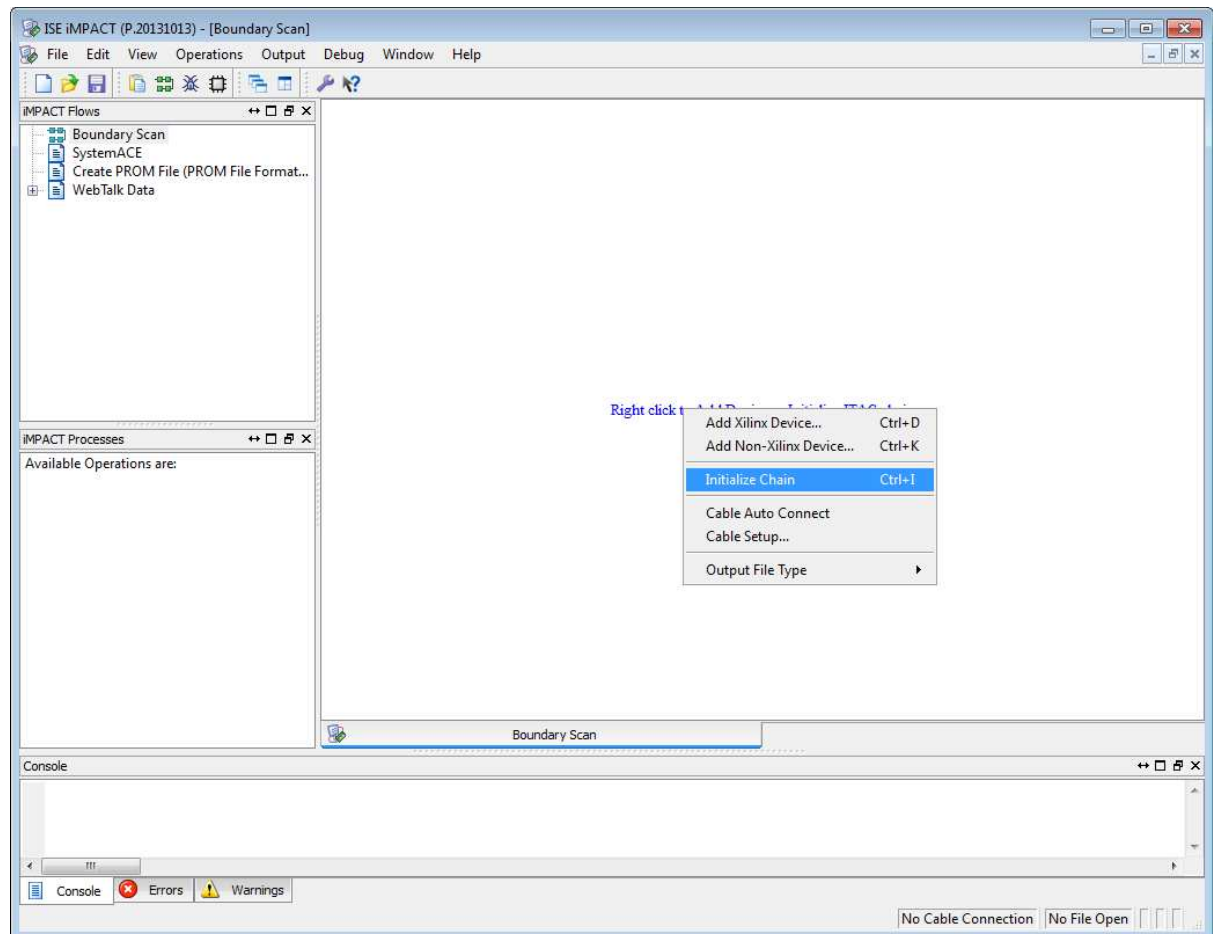

Figure 3.31: iMPACT window, showing Initialize Chain selected.
6. Right click on the text “Right click to Add Device or Initialize JTAG Chain”, and select **Initialise Chain**, as shown in Figure 3.31.